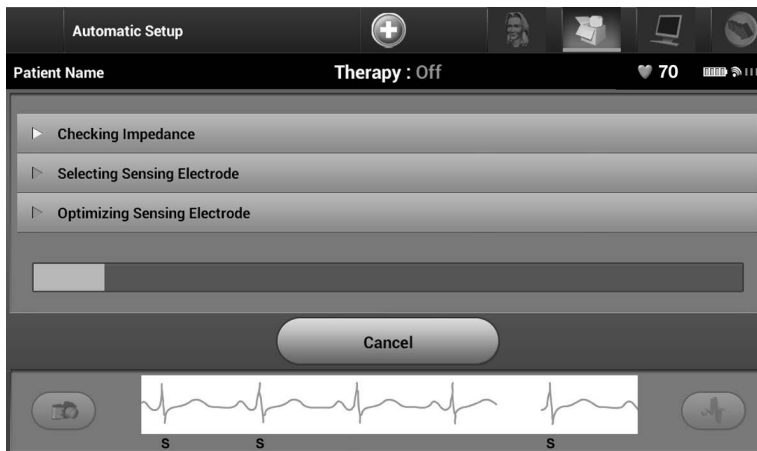

Figure 25: *Measuring electrode impedance*
- Perform the shock electrode integrity check to measure electrode impedance (Figure 25). Normal sub-threshold impedance range is < 400 Ohms.